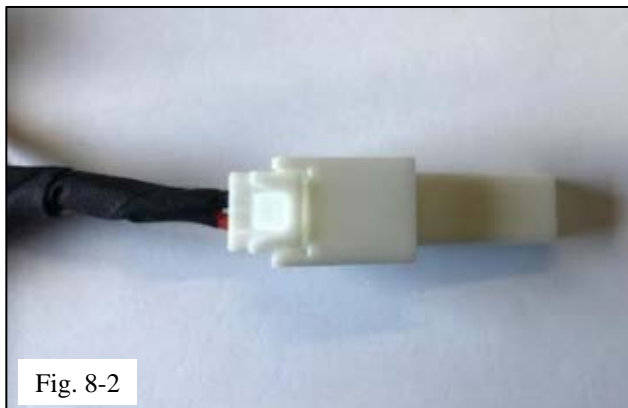

Fig. 8-2
- (d) Use single connector in H-Harness kit to 'plug' extra female connector on H-Jumper harness (Fig. 8-2).